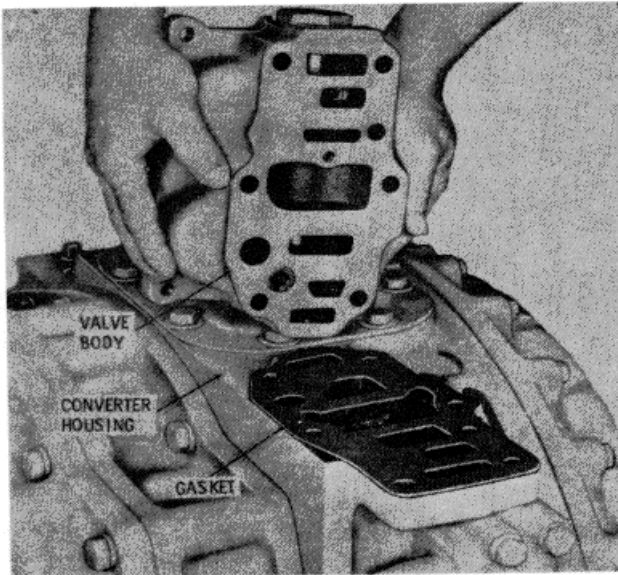

Figure 15-36. Removing Main Pressure Regulator Valve Body
- 5. Remove bolts 10 (B, Foldout 5) and lockwashers 11. Remove the main-pressure regulator valve body assembly (Figure 15-36). Remove and discard gasket 24.